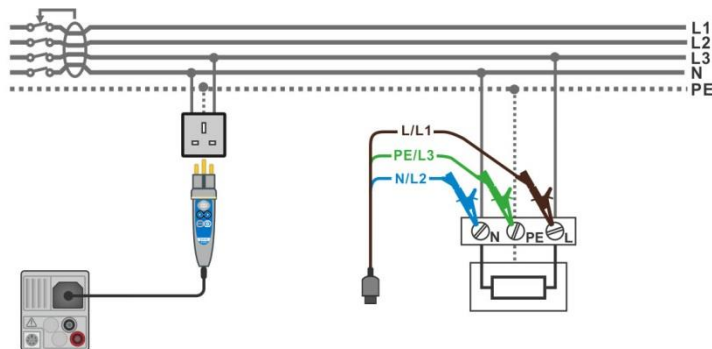

Figure 7.30: Connecting the Plug commander and the 3-wire test lead
- › Connect test leads or Plug commander to the object under test, see **Figure 7.30**.
<ul style="list-style-type: none"> › Enter the RCD Auto function. › Set test parameters / limits. › Connect test cable to the instrument. › Connect test leads or Plug commander to the object under test, see Figure 7.30 › Start the measurement. 	Start of test